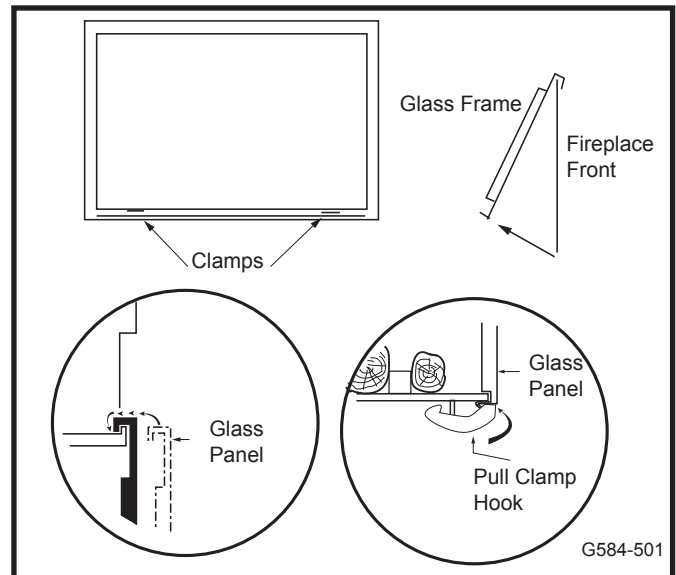

Fig. 48 Glass panel removal.
4. Release the two (2) clamps at the bottom of the window frame by pulling back on the clamp handles. (Fig. 48)
5. Lift off the glass frame as shown. (Fig. 48)
1. Remove front glass. (See "Glass Removal" Section, Fig. 48)